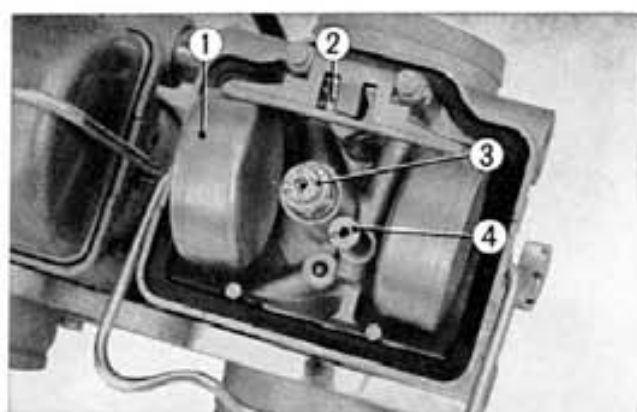

Fig. 6-6 ① Float ③ Main jet
② Float valve
6. Remove the float chamber retaining clip and the following carburetor components can be removed with a small screwdriver: slow jet, main jet, needle jet holder, float and float valve set. (Fig. 6-6)